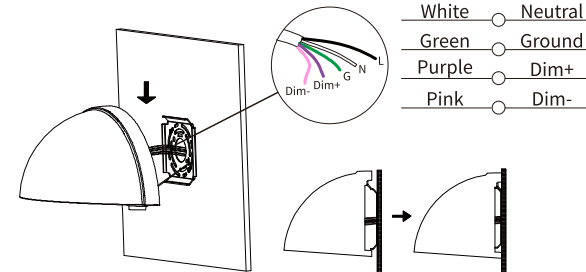

Fig 5
5. Slide the fixture onto the mounting bracket, as shown in Fig 5.